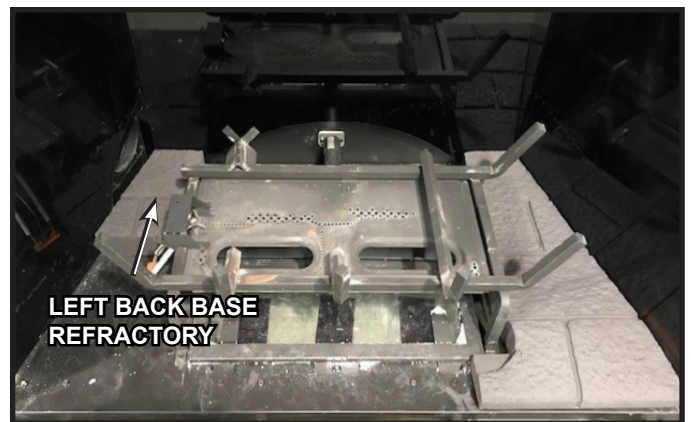

Figure 23 Left Back Base Refractory installed
23. Install the Left Back Base Refractory piece. See Figure 23.